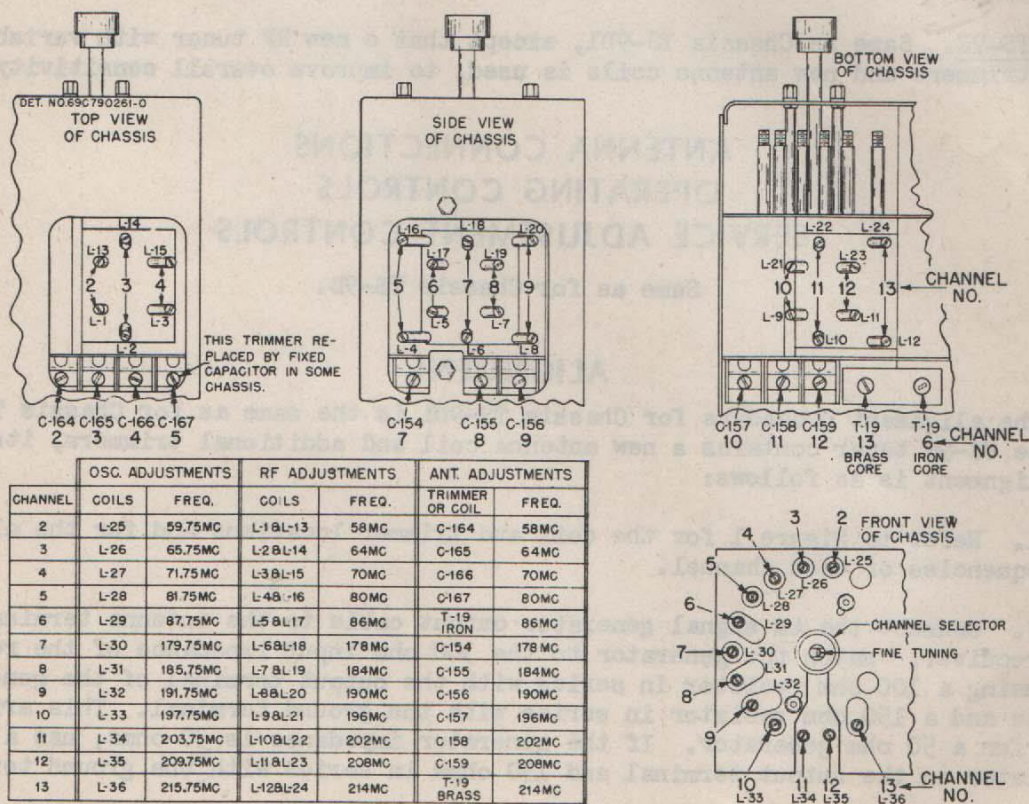

FIGURE 1. CHASSIS TS-9E OSCILLATOR, RF AND ANTENNA ADJUSTMENT LOCATIONS.
1. Refer to Figure 1 for the coil and trimmer locations and for the alignment frequencies of each channel.
7. Set the signal generator at the sound carrier frequency of the channel (See Figure 1) and adjust the signal generator output until a voltage reading is obtained on the electronic voltmeter, connected as in Step 4.
8. Locate the oscillator tuning adjustment belonging to the channel being aligned. See Figure 1. With a non-metallic screwdriver, adjust the oscillator frequency until the reading on the meter is zero. The meter reading will change rapidly from one polarity, through zero, to the opposite polarity as the oscillator frequency is adjusted to produce the correct sound IF of 21.7 Mc.